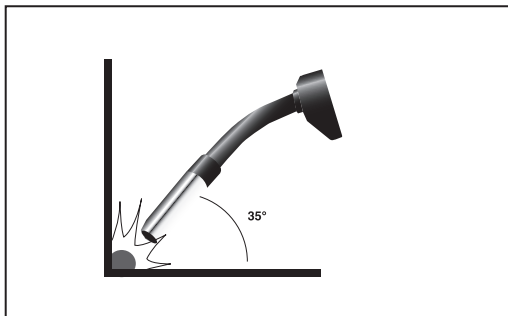

FIG. 9
8.3 MIG WELDING PRINCIPLES – FIGS. 9 – 10